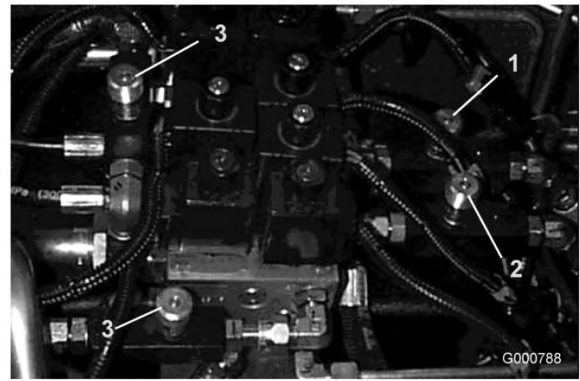

Figure 88
1. Locate valves under seat for adjusting front cutting units (Figure 88).
9. Locate valves under seat for adjusting wing cutting units (Figure 88).